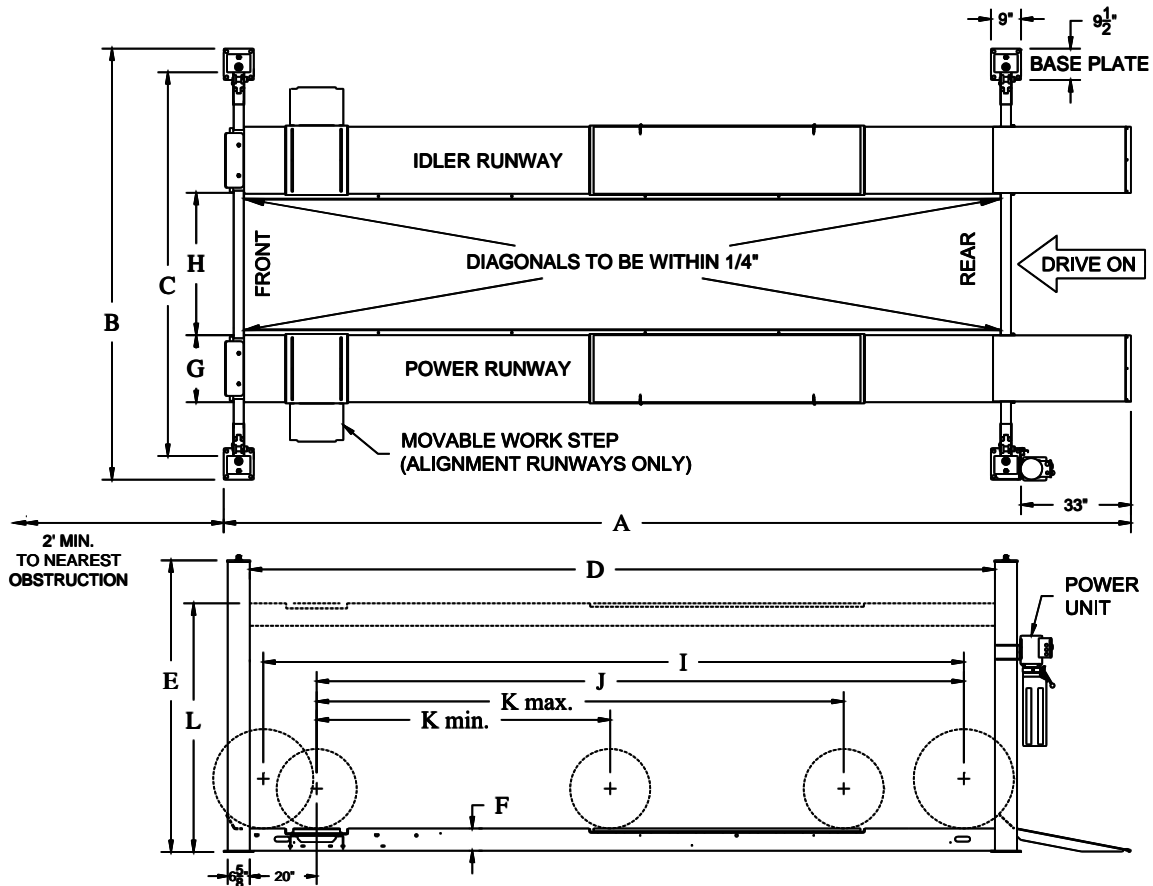
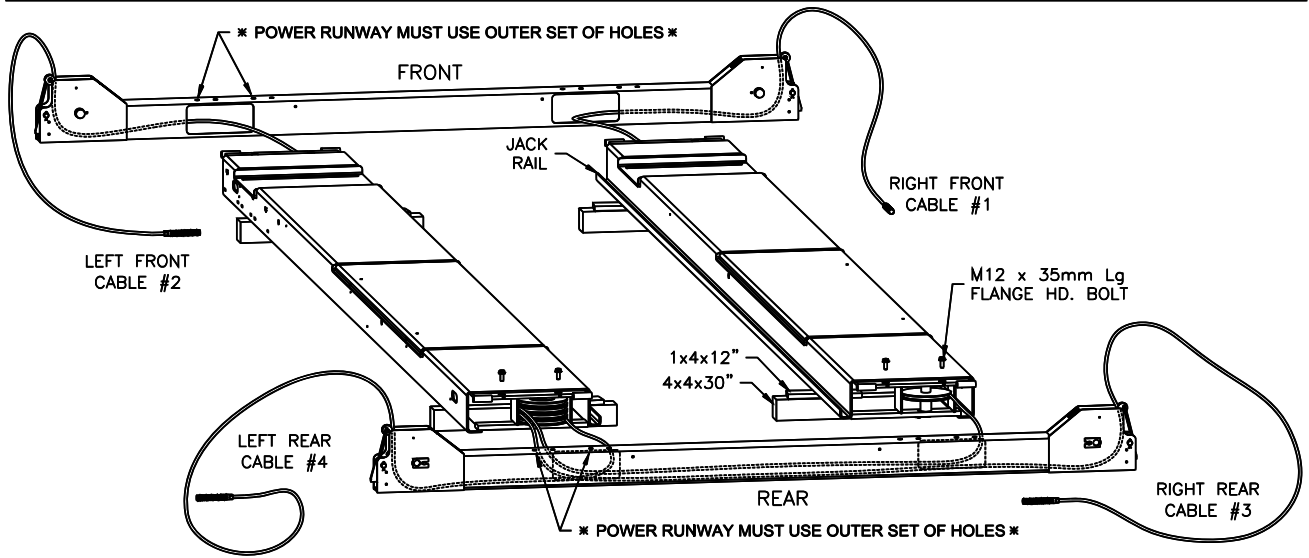

Fig 1 – General Specifications and Service Bay Layout
Fig 4 – Runway Layout
- 1) Lay out the service bay according to the architect's plans or owners instructions (**see Fig 1**). Be certain that the proper conditions exist, see page 3.
- 3) Position runways on blocking (see Fig 4) per layout lines established in step 1. Use four 30" long 4x4's spanning the width of the runway and four 12" long 1x4's to shim up the jack-rail
side of the runway. Cable #1, #3, & #4 should be extending out from the rear of the power runway and cable #2 from the front of the power runway, Fig 4.
- 4) Position the front and rear cross beams, Fig 4. (Both cross beams are identical.)
- 5) Reach in through either of the access holes in the rear cross beam tube and pull out the roll of 1/8" dia. plastic air line connected to the air cylinder at the end of the cross beam. Repeat for opposite access hole and position the cross beam near the end of the runways as in Fig 4.
- 11) Attach both cross beams to the runways (**Fig. 4**) with M12 x 35mm lg. flange head bolts (two at each end of each runway) being careful not to pinch the air line. Leave the air lines hanging out the bottom of the cross beam access holes at this time, they will be fed in through the runway after the lift is raised. **The outermost power runway slots should be in line with the outermost holes in the top of the cross beam, see Fig. 4.** The idler runway can be installed using the outer or inner sets of cross beam holes, see "Width Between Runways" dimension in Fig. 1. Do not torque bolts yet.